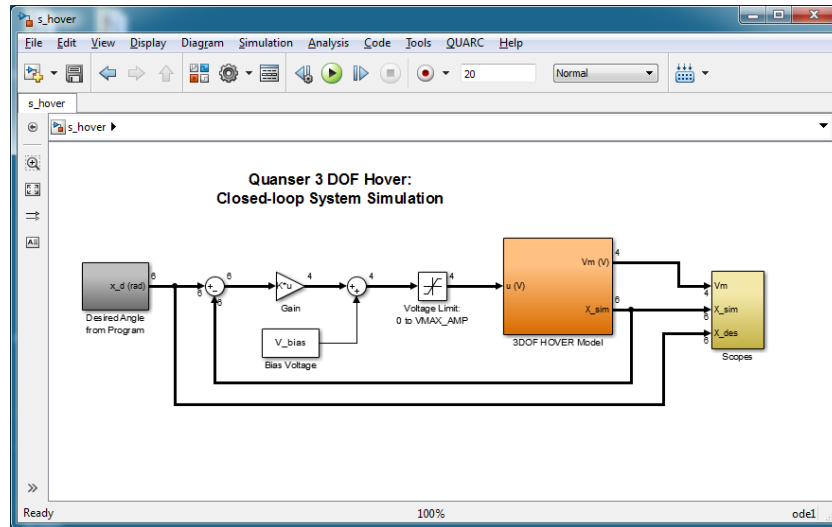

Figure 3.1: Simulink diagram used to simulate 3 DOF Hover system
In this section we will use the Simulink diagram shown in Figure 3.1 to simulate the closed-loop control of the Quanser 3 DOF Hover system. The system is simulated using the linear model summarized in Section 2.1. The Simulink model uses the state-feedback control described in Section 2.2. The feedback gain K is found using the Matlab LQR command (LQR is described briefly in Section 2.2.2). The goal is to make sure the generated gain can stabilize the system while not saturating the dc motors.
The 3 DOF HOVER Model block shown in Figure 3.1 uses the Simulink State-Space block to load the dynamics model from the workspace. High-pass filters are used to obtain the velocity states.
3. Open the Simulink model called `s_hover.mdl`, shown in Figure 3.1.